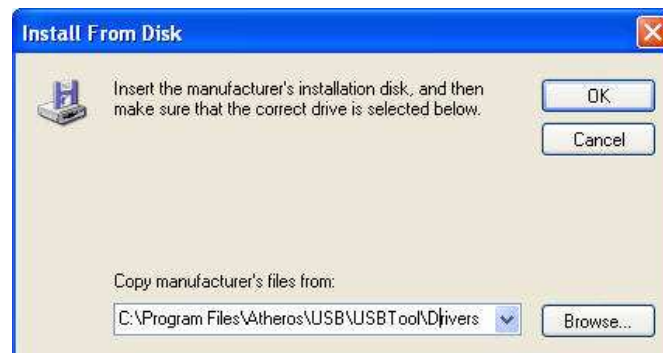

Figure 1-16. Copying the Driver
8. Click on **Have Disk** button. This displays another screen. See Figure 1-16.